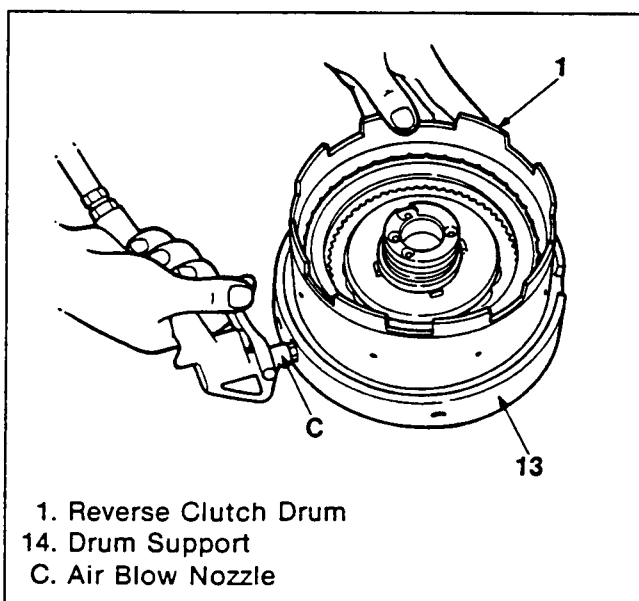

Figure 127. Reverse Clutch Operation Inspection
3. After the clutch is assembled, install it in the drum support and blow air 294 – 392 kPa (42 – 56 psi) into the circuit hole to check the piston operation. (figure 127)